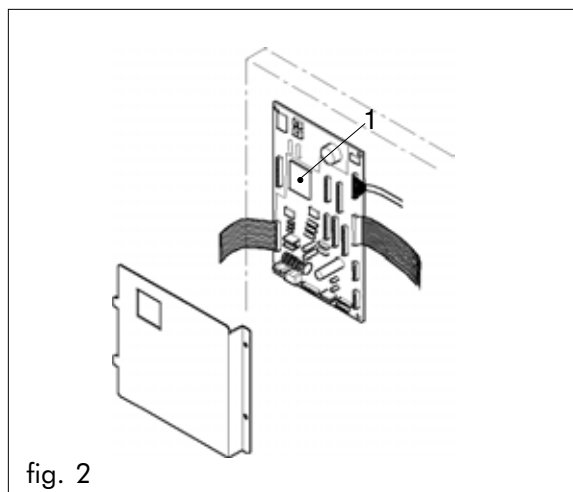

fig. 2
- The version of the programme contained in the microprocessor (adhesive label applied to the component assembled on the C.P.U. board) (ref. 1, fig. 2);